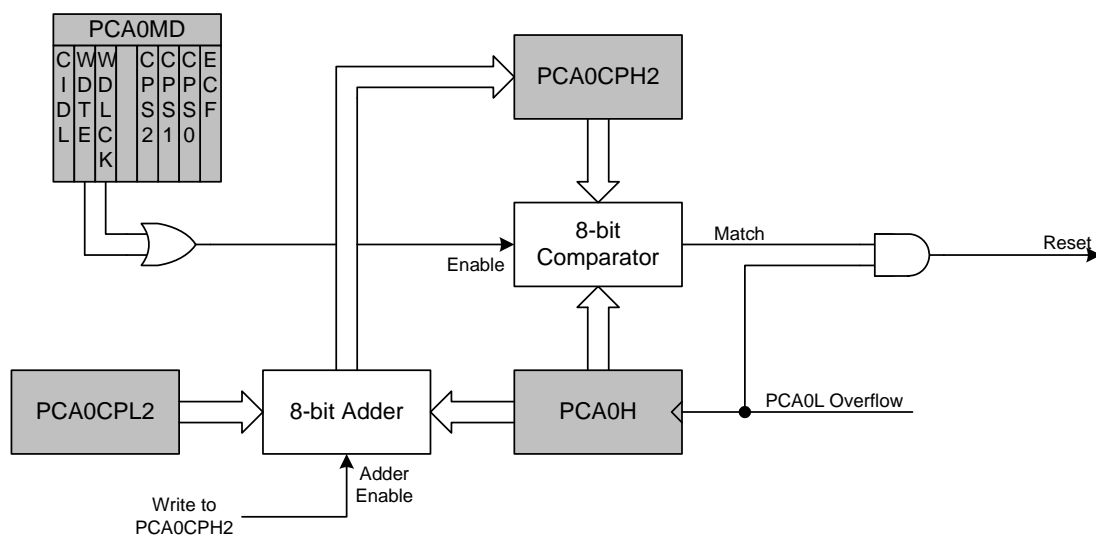

Figure 24.10. PCA Module 2 with Watchdog Timer Enabled
While the WDT is enabled, writes to the CR bit will not change the PCA counter state; the counter will run until the WDT is disabled. The PCA counter run control bit (CR) will read zero if the WDT is enabled but user software has not enabled the PCA counter. If a match occurs between PCA0CPH2 and PCA0H while the WDT is enabled, a reset will be generated. To prevent a WDT reset, the WDT may be updated with a write of any value to PCA0CPH2. Upon a PCA0CPH2 write, PCA0H plus the offset held in PCA0CPL2 is loaded into PCA0CPH2 (See Figure 24.10).